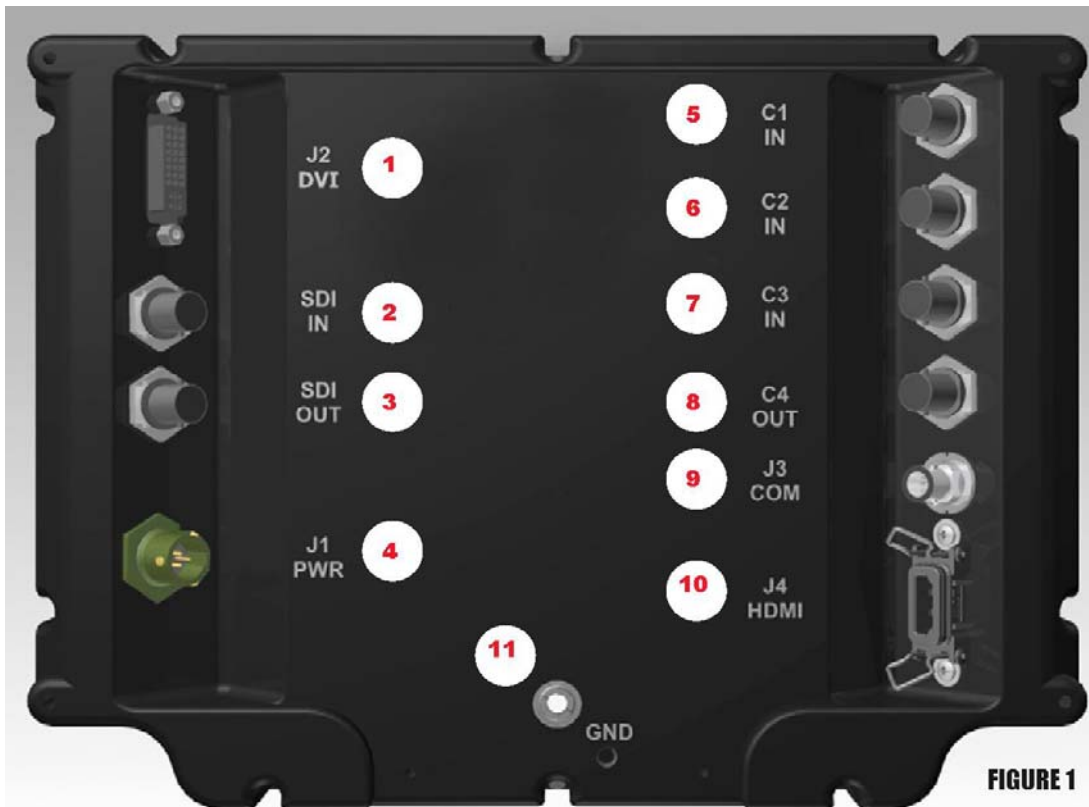

FIGURE 1
The DHDW1410 can be installed as: Panel Mount (M4); VESA Mount (75mm/M4) or RAM Mount (M4). Follow known-good practices during installation. Do not block the pressure equalizer valve.(See Figure 1, #11)
Connectors are located on the DHDW1410 chassis. From left to right, see Figure 1, Table 1 for connector assignments.
- Align with J2 connector; See Figure 1, #1
- Align with connector; See Figure 1, #2
- Align with connector; See Figure 1, #3
- Align up with J1 connector; See Figure 1, #4
See Figure 1; #5 - 7